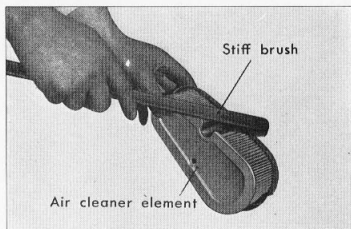

Figure 6-22. Cleaning air cleaner element
- Tap the cleaner lightly to remove the dust and then blow dry compressed air from the inside or use a brush. (Fig. 6-22)